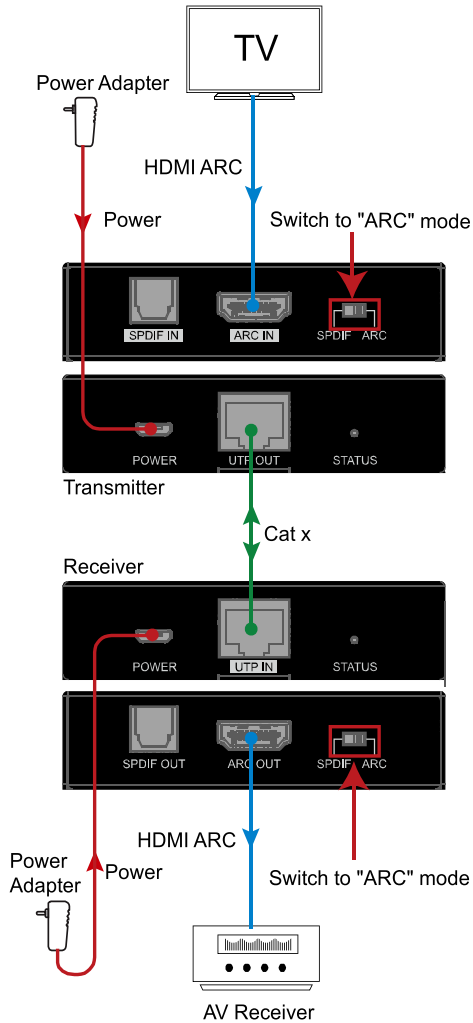

Figure 1 ARC Mode
8. Power on all devices. The audio signal of TV through ARC IN port will be transmitted to the AV receiver connected to ARC OUT Port of receiver. (See Figure 1)